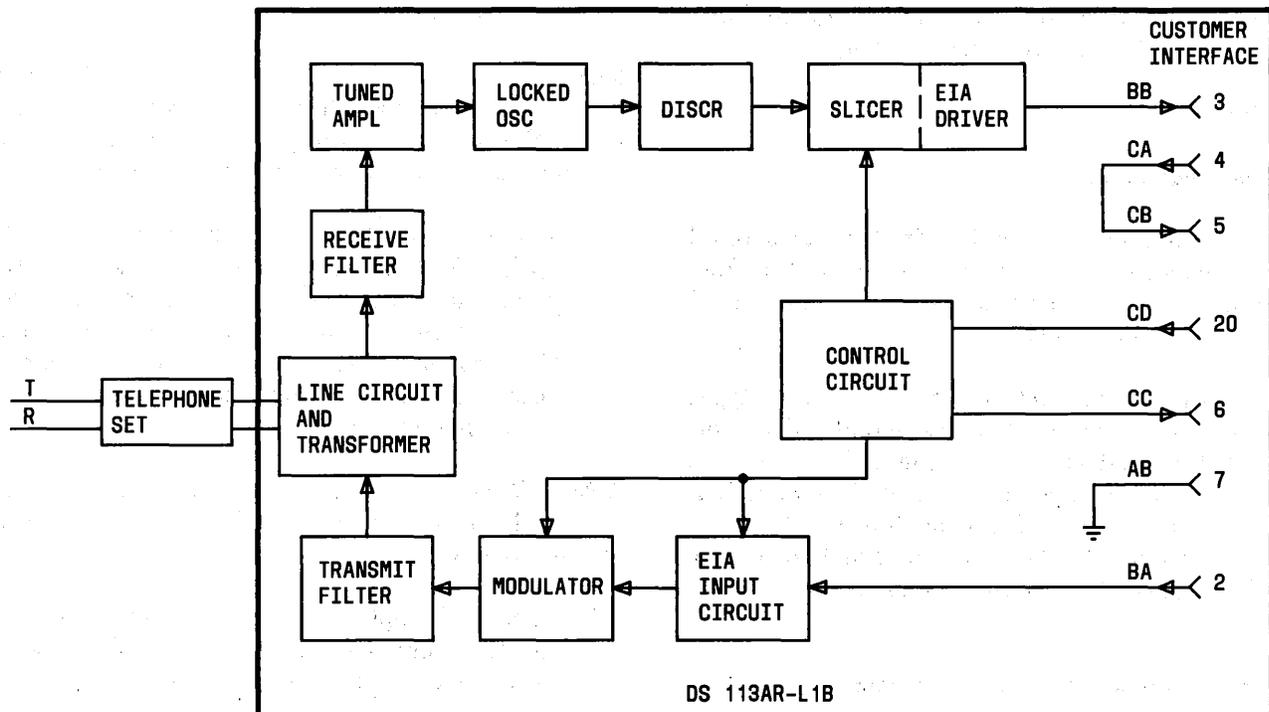

Fig. 4—Simplified Block Diagram of DS 113AR-L1B
4.01 Data Set 113AR-L1B is an originate-only data set capable of transmitting and receiving low-speed full-duplex data over the switched network. Refer to Fig. 4 for a simplified block diagram of the data set.